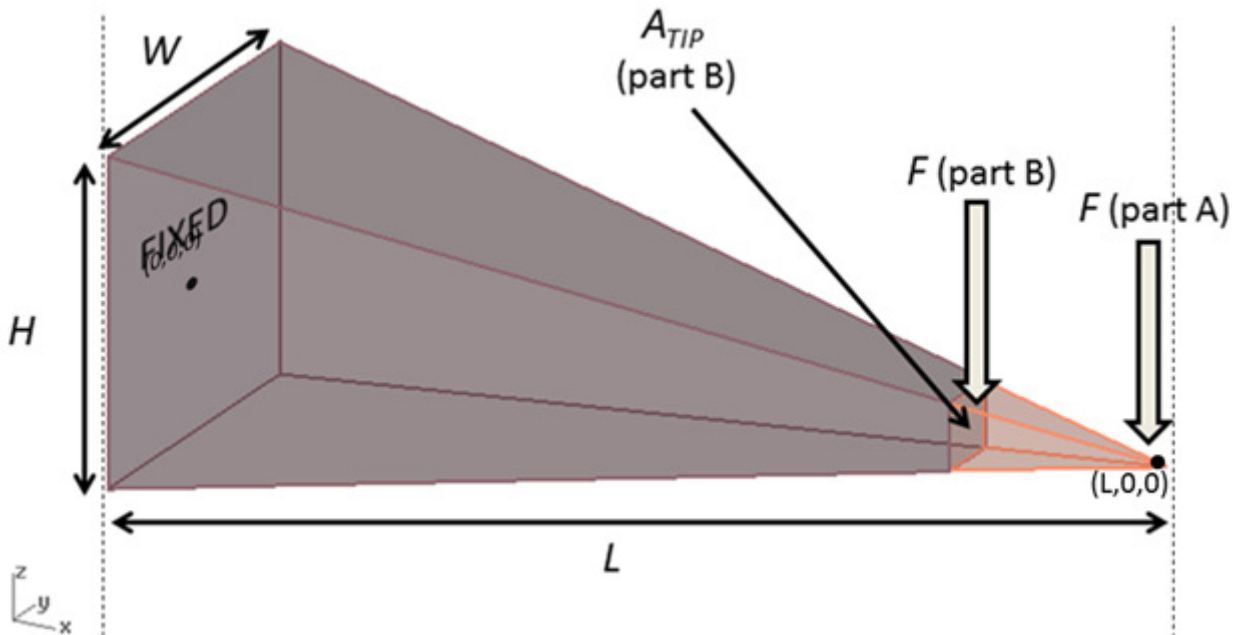

Figure 5. Microneedle dimensions for parts (a) and (b). Here, the channel is not displayed for simplicity.
- (b) The maximum yield stress of a material (denoted σ_{ys}) is defined as the stress where the material begins to irreversibly deform. In the case of a microneedle, if the lateral force F induces a stress exceeding σ_{ys} the tip will be permanently bent (rendering the device useless). Suppose we define the sharpness of a tip as $S = 1/A_{TIP}$. What is the maximum sharpness of a microneedle under the lateral force $F(\text{part B})$ shown in Figure 5? [Hint: At what distance does the stress in the microneedle exceed the yield stress?]